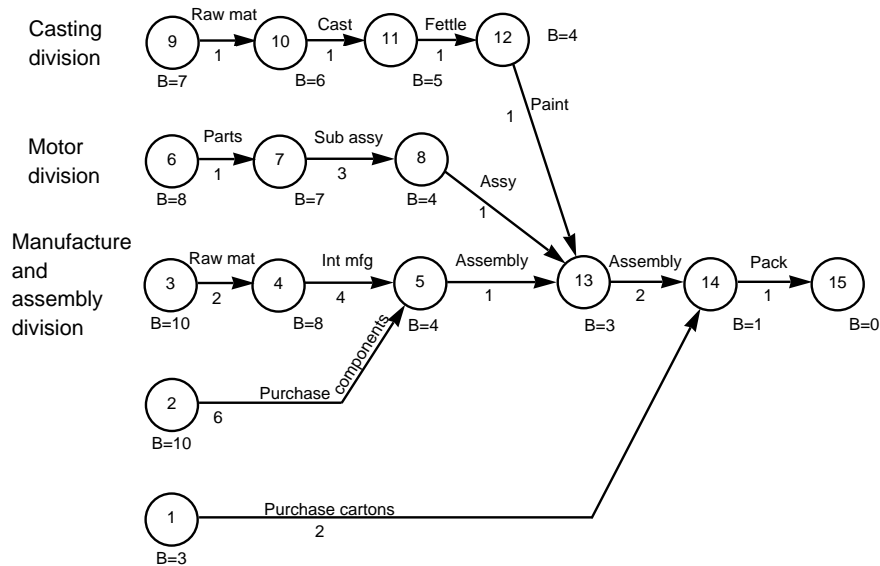

Figure 15: Logic diagram
We now draw a logic diagram (Figure 15) of the situation with as many single event starts as there are departments. Events are numbered and activity times inserted. It is then necessary to determine the number of weeks that each event is behind the finish of the last activity. Make the last event (15) as B = 0 and work backwards adding the duration of each event cumulatively.